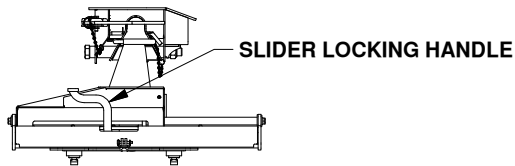

Figure H1: Side view of slider base. LOCKED HANDLE POSITION
3. Pull the truck forward slowly until the handle falls and is in the locked position, shown in Figure H1.
7. Move the truck slowly in reverse until the handle falls and is in the locked position, shown in Figure H1.